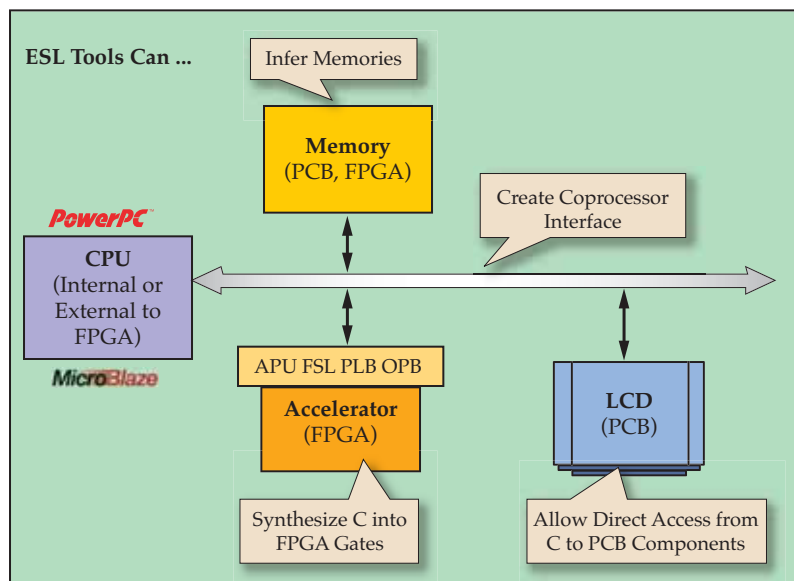

Figure 2 – ESL tools abstract the details associated with accelerating processor applications in the FPGA.
- Processor acceleration. In this mode of use, the HLL compiler allows time-critical or bottleneck functions running on a processor to be accelerated by enabling the creation of a custom accelerator block in the programmable fabric of the FPGA. In addition to creating the accelerator, the tools can also automatically infer memories and generate the required hardware-software interface circuitry, as well as the software device drivers that enable communication between the processor and the hardware accelerator block (Figure 2). When compared to code running on a CPU, FPGA-accelerated code can run orders of magnitude faster while consuming significantly less power.